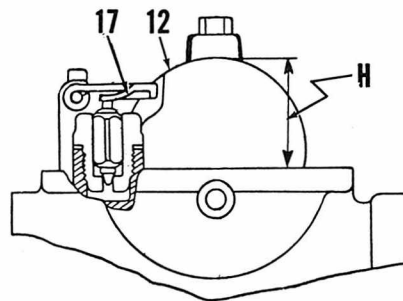

Fig. K3-2—Float height (H), should be adjusted by bending tang (17).
Fuel level should be adjusted by removing float bowl, inverting carburetor and measuring distance (H—Fig. K3-2) between gasket surface of carburetor body and top of float. Float height (H) should be 22-23MM (0.86-0.95 inch) on 250cc models and 24-26MM (0.95-1.02 inch) on 350cc models.